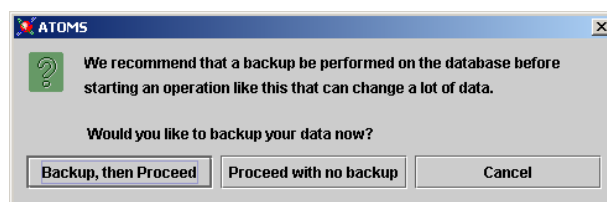

Figure 4-20. Back-Up First Window
- 4) From the splash screen, select **Utilities, Import**. The Back-Up First window appears (Figure 4-20). If a Back-Up has not been made recently, it is recommended that one be run before doing an
- 1) From the splash screen, select **Utilities, Purge**. The **Back-Up First** window appears (Figure 4-20). If a Back-Up has not been made recently, it is recommended that one be run before doing a Purge. To follow that recommendation, select **Backup, then Proceed**. If not, then select **Proceed with no backup**, or **Cancel** to abort the Purge.
- 1) From the splash screen, select **Utilities**, **Transfer Sub-Account**. The **Back-Up First** window appears (Figure 4-20). If a Back-Up has not been made recently, it is recommended that one be run before doing a Transfer. To follow that recommendation, select **Backup, then Proceed**. If not, then select **Proceed with no backup**, or **Cancel** to abort the Transfer.
- 1) From the splash screen, select **Utilities, Transfer Sub-Account**. The Back-Up First window appears (Figure 4-20). If a Back-Up has not been made recently, it is recommended that one be run before doing the Transfer. To follow that recommendation, select **Backup, then Proceed**. If not, then select **Proceed with no backup**, or **Cancel** to abort the Transfer.